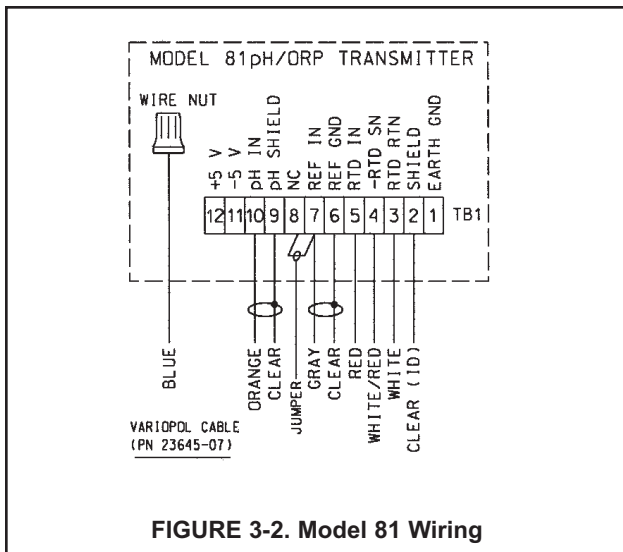

FIGURE 3-2. Model 81 Wiring
Figures 3-2 thru 3-23 provide the diagrams for wiring the 399VP sensor to various analyzer/transmitters.
1. If the cable needs to be extended, use a high quality cable available from Rosemount Analytical. Refer to Figures 3-2 through 3-23 for the appropriate junction box part number and the corresponding wiring details.